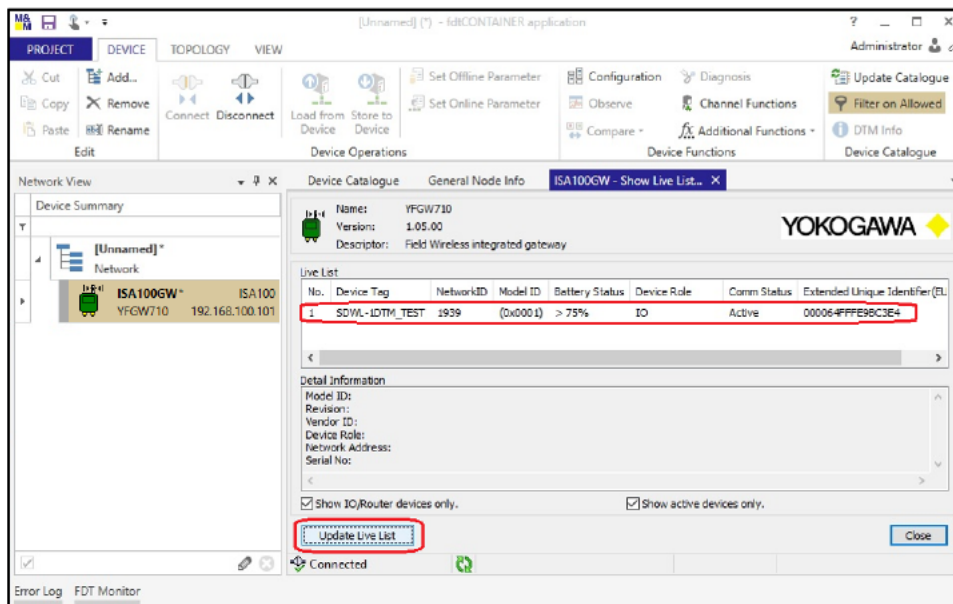

Figure 5-43 Updating live list
- ⑤ The live list is displayed. Click "Update Live List" to update the live list. The SDWL-1 will be displayed on the list if it is correctly connected to the system. (Figure 5-43)